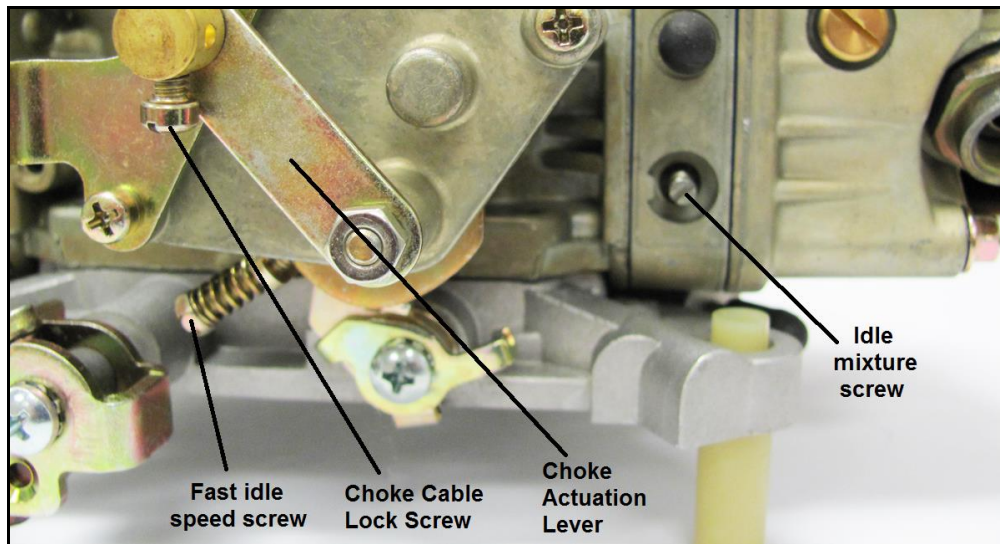

Figure 8
6. If the fast idle RPM is too low or too high for your preferences, TURN THE ENGINE OFF. Advance the throttle to wide-open, exposing the fast idle set screw below the choke housing (See **Figure 8**).
1. Connect the choke control cable (Holley® P/N 45-228) to the choke actuation lever, and lock in place with the choke cable lock screw (Figure 8).
4. If the fast idle RPM is too low or too high for your preferences, TURN THE ENGINE OFF. Advance the throttle to wide-open, exposing the fast idle set screw below the choke housing (See **Figure 8**).